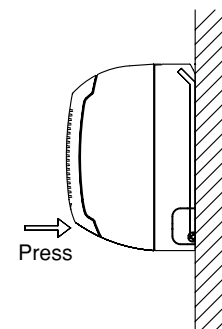

Fig. 3-27
2. Press on the air outlet to hold it in place, and press the lower part of the indoor unit until a "click" sound is heard and the indoor unit is securely fastened to the installation tabs on the lower side of the rear panel. (Fig. 3-27)